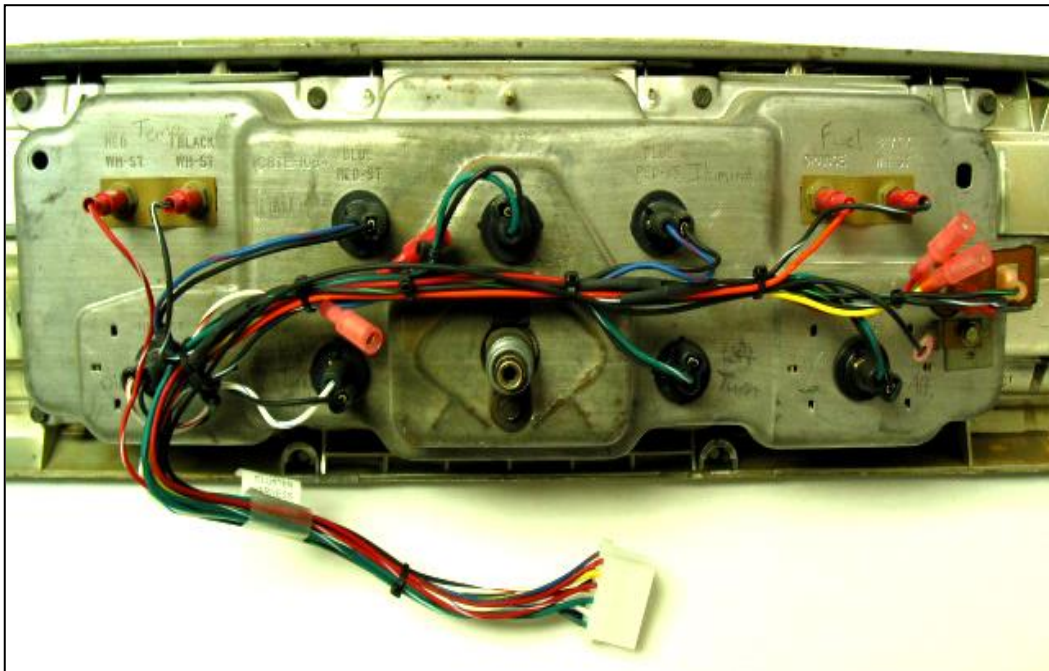

Figure 7-34 1967 thru 1969 Models - Cluster Harness
7.15.2 Locate the “Early Cluster Harness” in the kit. This harness will connect to the back of a 1967, 1968 or 1969 Dash Cluster only. Some clusters have gauges for Fuel Level and Temperature only. See Figure 7-34. Other clusters have all four gauges. On the early stamped steel Ford clusters the wire color of each connection is stamped into the metal.
7.15.3 After removing the original harness, carefully lay the new cluster harness over the back of the cluster as shown. Now read the wire designations by each (holes – for lights) and (threaded studs – for sockets). Connect the harness as shown in Figure 7-34. **NOTE: If the cluster being wired has an ammeter and not a charge light, the bulb and socket for the charge light must be cut off and the wires spliced together. If this step is skipped the charging system will not work.**